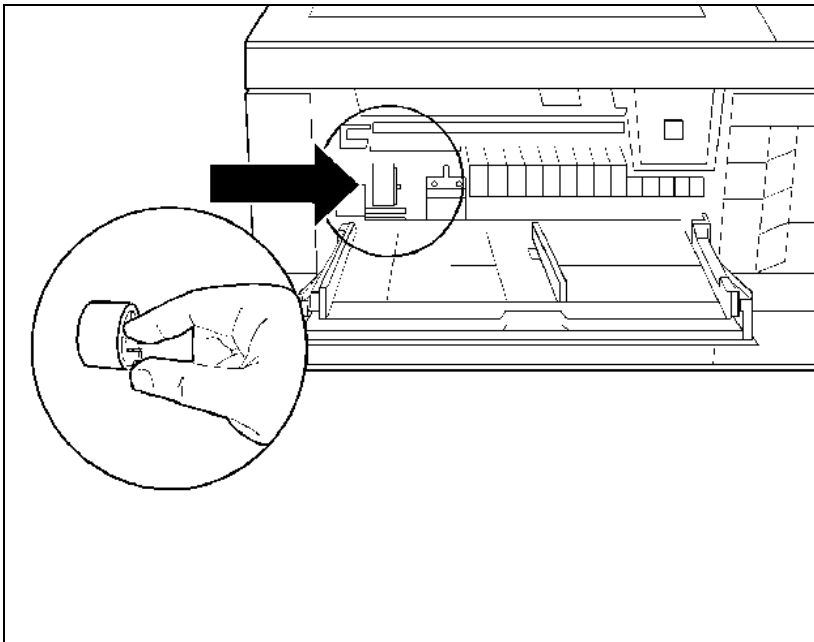
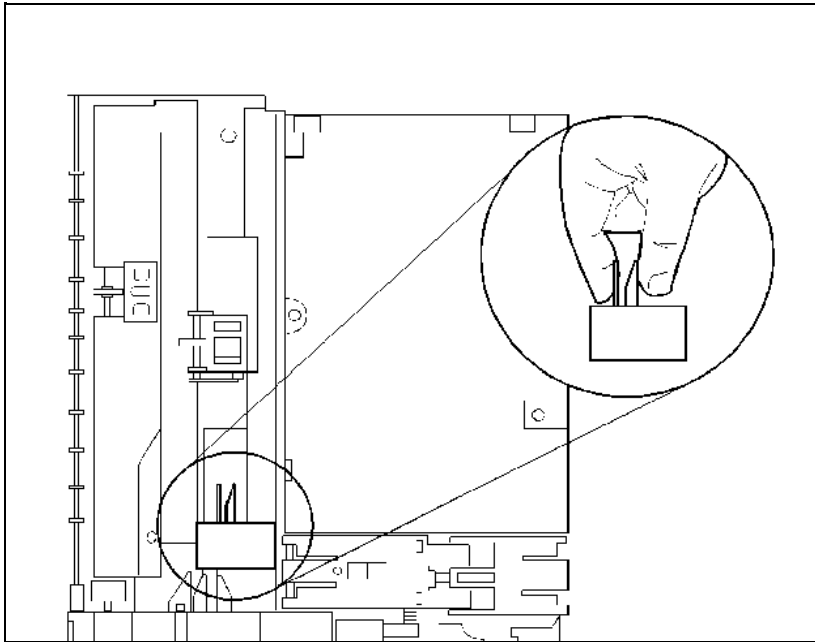
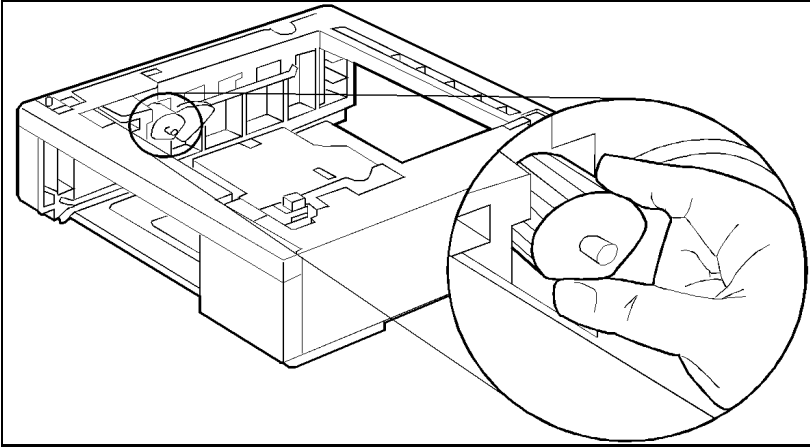

Figure 4-5 Removing the MP Tray (Tray 1) Pickup Roller
Figure 4-7 Removing the PC (Tray 2) Pickup Roller (printer is turned on its left side)
Figure 4-8 Removing the Lower Cassette Pickup Roller
Each paper source has a Paper Pickup Roller that should be replaced when paper no longer feeds reliably. The MP Tray (Tray 1) Paper Pickup Roller is shown in Figure 4-5. The PC tray (Tray 2) Pickup Roller is shown in Figure 4-7, the LC (Tray 3) Pickup Roller is shown in Figure 4-8.
- 3 Remove the roller by pinching the plastic retaining clip at the side of the roller and sliding it off its shaft (see Figure 4-5). (You may find it easiest to pinch the clip with your *right* hand and use your *left* index finger to slide the roller to the right.)
The PC Pickup Roller is underneath the printer (see Figure 4-7). To remove the Pickup Roller:
- 2 Press the retainers that hold the roller in place (see Figure 4-8).